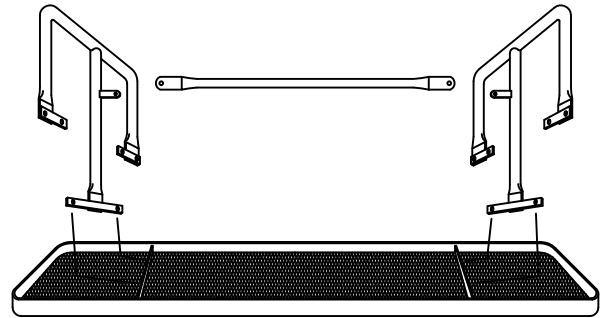

FIG. 1
Invert the (A-) top so it's upside down on a flat surface. Attach the two (C) legs to the outermost part of the top's end leg mounting brackets, see FIG. 1. Use two, per leg, (G) and (H) using two (F) and one (J) per (G).
Attach one end of the (D-) brace to a tab on one leg, while attaching the opposite end of the brace to the tab on the other leg, refer to FIG. 1. Use one (E) and (H) using two (F) and one (J) on each of the braces.